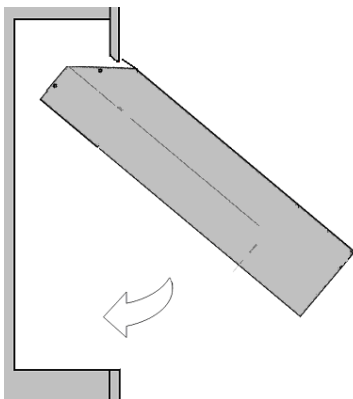

Figure 2 – Installation
- Swing the unit into the opening and rest the bottom of the fire onto the bottom of the recess as shown in Fig.2.